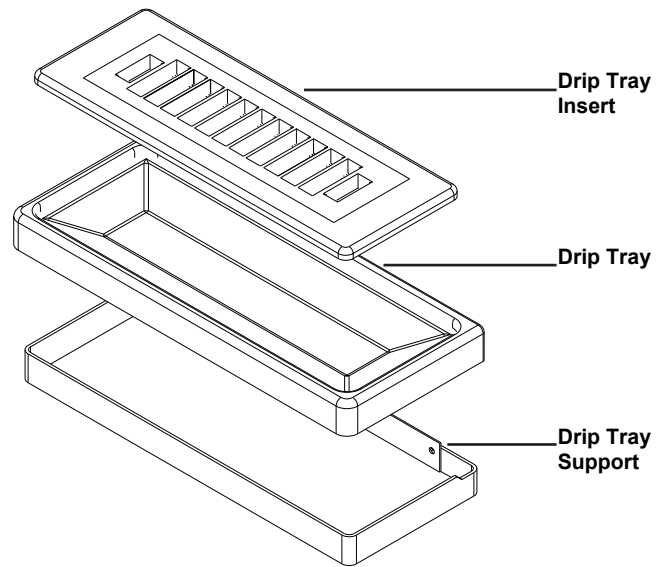

Fig. 24
4. Install the drip tray and drip tray insert (Fig. 24).